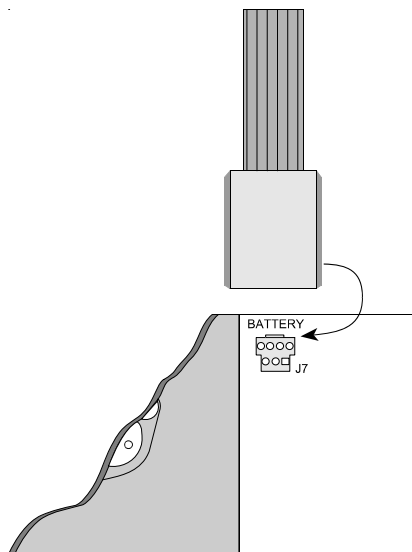

Figure 5: Connecting the battery harness
4. **Plug the battery harness into connector J7 on the D9142F as shown in Figure 5.**